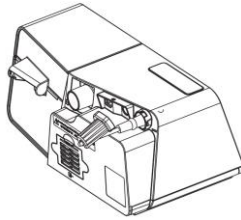

Fig. 12-5
- (1) Connect the device to power supply in accordance with 12.3 *Connecting Power Supply*.
- (2) Clip the narrow end of the power cord locker to the cord of the power adapter, as shown in Fig. 12-5.